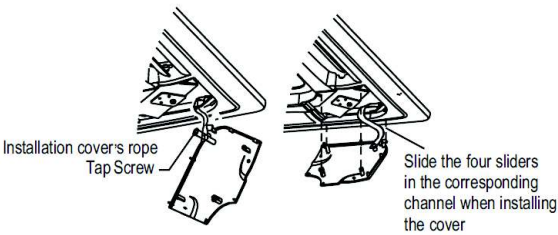

Fig. 4-26
- You can modify the height of the indoor unit through the openings on the panel's four corners, if the lift of the indoor unit and the drainpipe is not influenced (refer to Fig.4-26-right).
- Fasten the rope of installation cover on the bolt of the installation cover. (Refer to Fig.4-26-left)
- Press the installation cover into the panel slightly. (Refer to Fig.4-26-right)